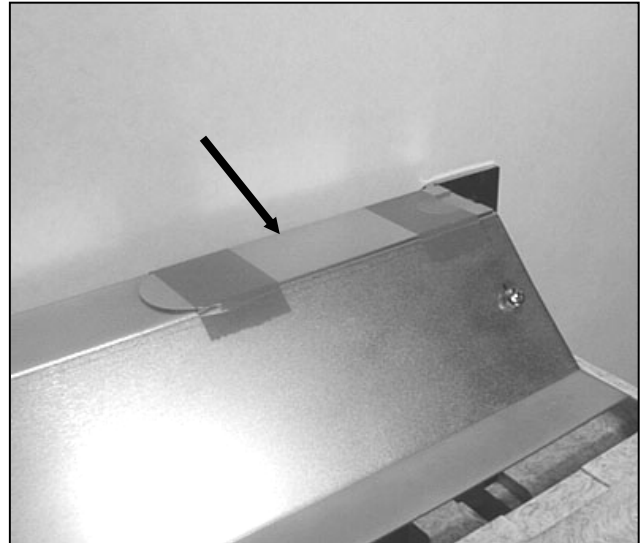

Figure 5 - Location of Wear Gauge
- Contactor wear gauge (Figure 5).